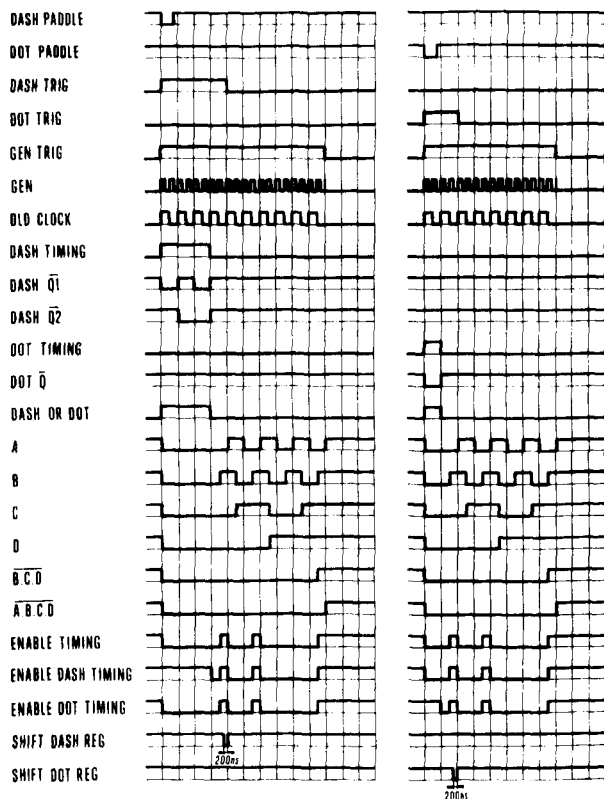

fig. 7. Timing diagrams for the signals shown in figs. 5 and 6.
**Dash shift and dot shift.** The signals SHIFT DASH REG and SHIFT DOT REG, shown in fig. 7, are short pulses positioned at the end of the single width space following the dash or the dot. By having these pulses at the end of the space, you have the maximum amount of time in which to key in another dot or dash.